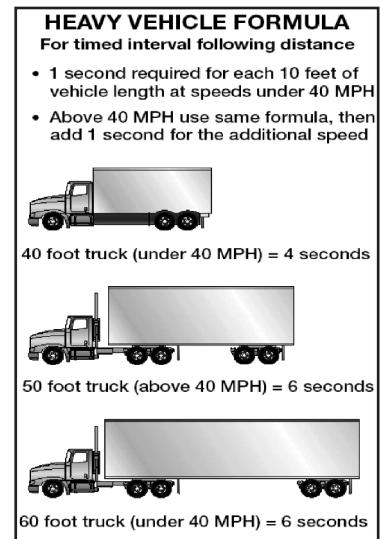

Figure 2.12
**How Much Space?** How much space should you keep in front of you? One good rule says you need at least one second for every 10 feet of vehicle length at speeds below 40 mph. At greater speeds, you must add one second for safety. For example, if you are driving a 40-foot vehicle, you should leave four seconds between you and the vehicle ahead. In a 60-foot rig, you will need six seconds. Over 40 mph, you would need five seconds for a 40-foot vehicle and seven seconds for a 60-foot vehicle. (See Figure 2.12.)